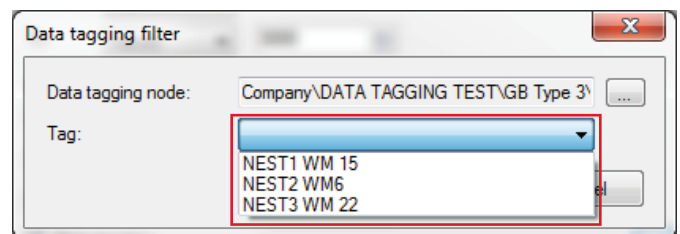

Fig. 16. Select the tag.
- Finally, select the tag and click **OK** (→ fig. 16).